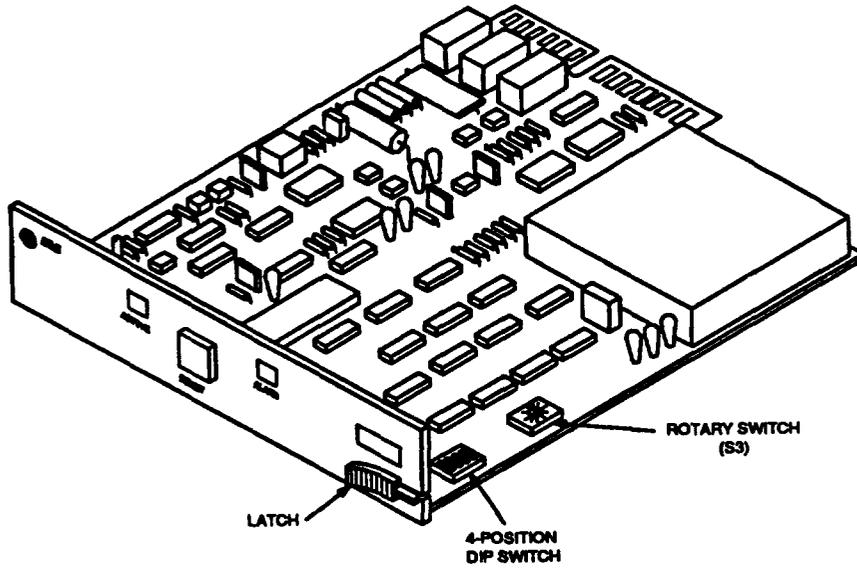

Figure 5. Remote Record Unit ALD3 Circuit Pack
- (1) Place the removed circuit pack or its replacement in the apparatus mounting tracks and slide it forward until it is fully mated with the 940A connector. See Figures 5 and 6.
- (2) Hold the spring-loaded latch forward until the pack is fully mated.
- (3) Release the latch and check to see it is in the latched position.
- (1) Pull the spring-loaded latch located on the right side of the pack forward and hold it there (Figure 5).
- (2) Pull the circuit pack forward and out of the apparatus mounting. (No electrical damage will be caused to an ALD3 by removing it with the power on.)